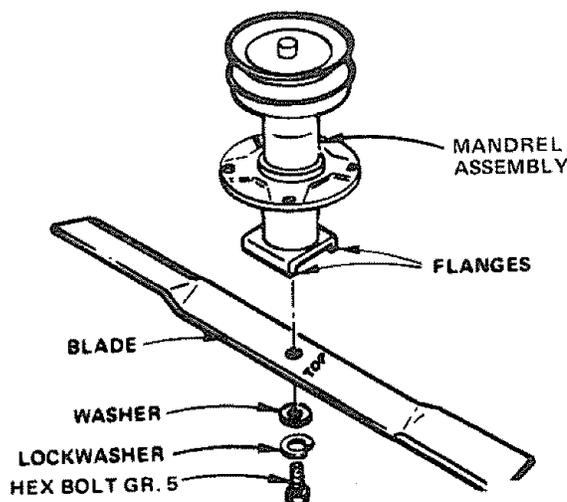

FIGURE 37
- a. Remove bolt, lockwasher and washer (Fig.37) (turn counterclockwise) (⤴).